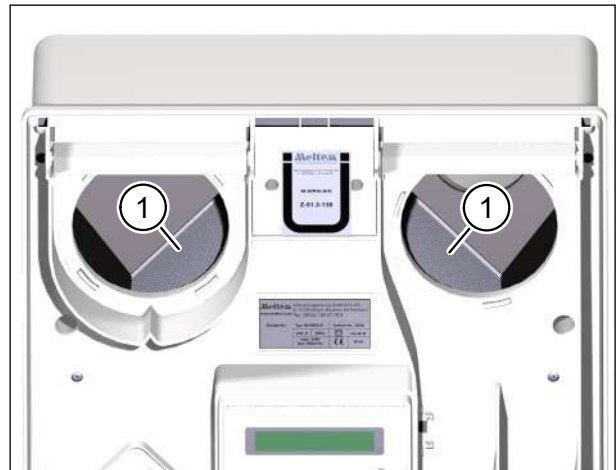

Fig. 10: Check heat exchanger for soiling
- ▶ Visually inspect the heat exchanger (item 1 in Fig. 10) for soiling.